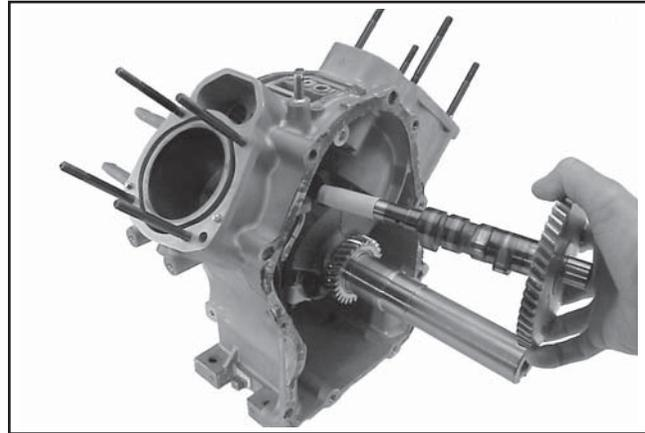

Figure 11-10. Installing Camshaft using Seal Protector.
1. Inspect the edges of the camshaft keyway, make sure they are not nicked or burred. Use a seal protector (11/16") to prevent damaging the seal lips, or dislodging inner spring when the camshaft is installed. Cellophane tape over the keyway is also recommended. See Figure 11-10.